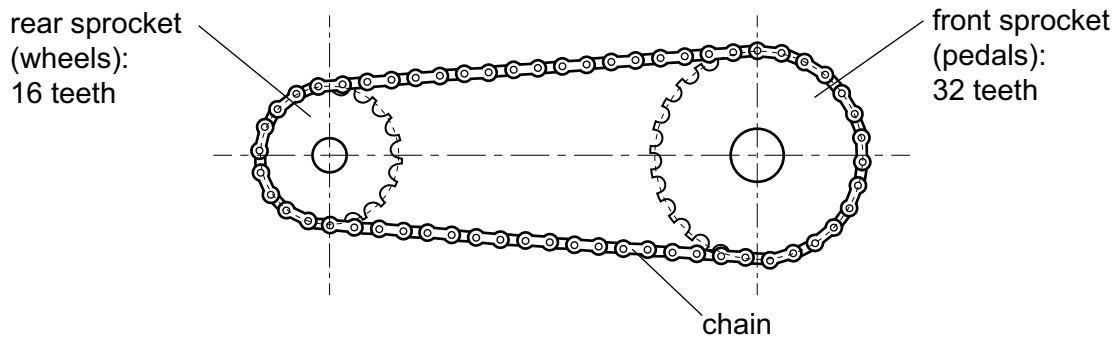

Figure 3.2
- (b) Figure 3.2 shows the sprocket and chain drive that is used on the child's pedal toy.